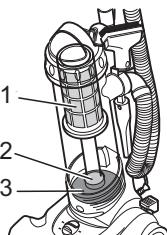

Fig.19
- **Central laminar filter** (Fig. 19/1)
- **Protective motor filter**: under the dust container (Fig. 19/2)
- **Blow-out filter**: under the dust container (Fig. 19/3)